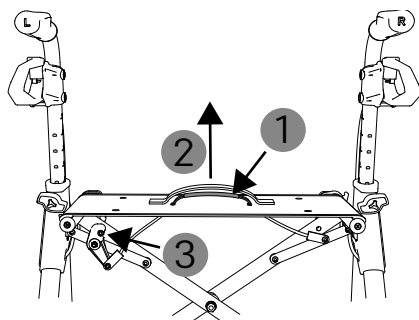

Fig. 8
1. Position yourself between the push handles and reach under the grey pull strap (1, Fig. 8) to release the folding lock. The pull strap is the lower one lying flat against the seat.
2. Pull the pull strap with the seat surface upwards (2, Fig. 8).
3. As a result, the folding lock (3, Fig. 8) is released and the rollator can be folded.